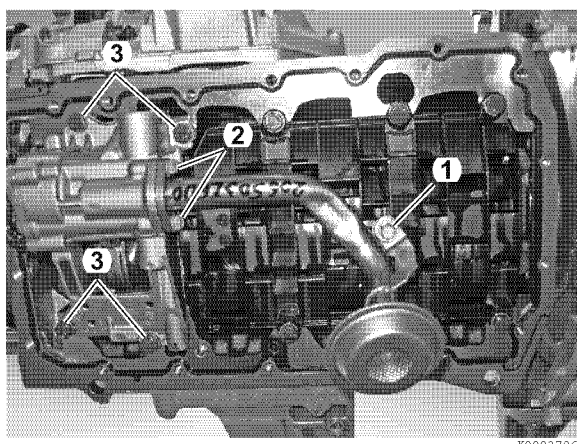

Figure 8-17
3. Remove bolts (1 and 2, **Figure 8-17**). Remove oil strainer assembly and suction pipe.
4. Remove bolts securing oil pump (3, **Figure 8-17**). Remove oil pump from engine.